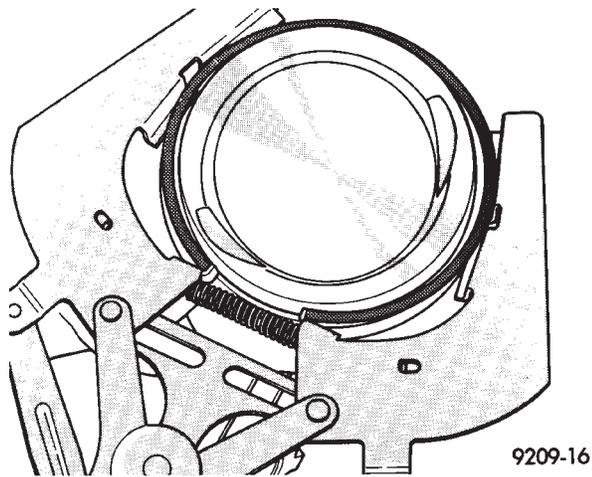

Fig. 4 Removing Piston Rings
- (3) Remove piston rings (Fig. 4).